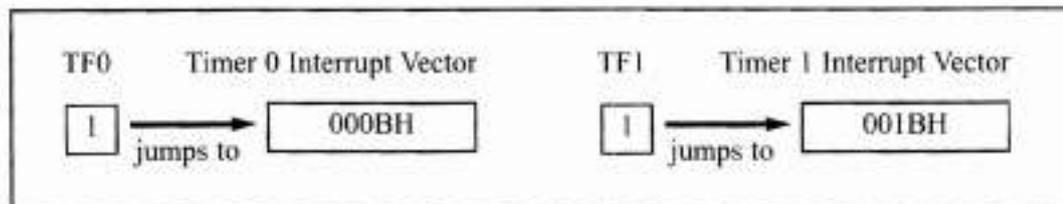

Figure 11-3. TF Interrupt
In Chapter 9 we stated that the timer flag (TF) is raised when the timer rolls over. In that chapter, we also showed how to monitor TF with the instruction "JNB TF, target". In polling TF, we have to wait until the TF is raised. The problem with this method is that the microcontroller is tied down while waiting for TF to be raised, and cannot do any thing else. Using interrupts solves this problem and avoids tying down the controller. If the timer interrupt in the IE register is enabled, whenever the timer rolls over, TF is raised, and the microcontroller is interrupted in whatever it is doing, and jumps to the interrupt vector table to service the ISR. In this way, the microcontroller can do other things until it is notified that the timer has rolled over. See Figure 11-3 and Example 11-2.